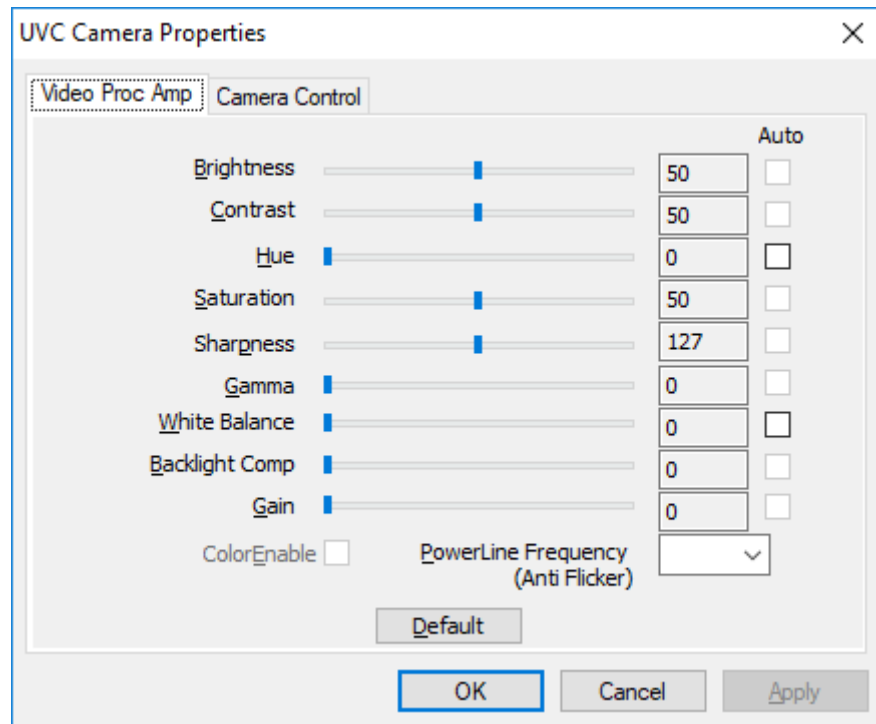
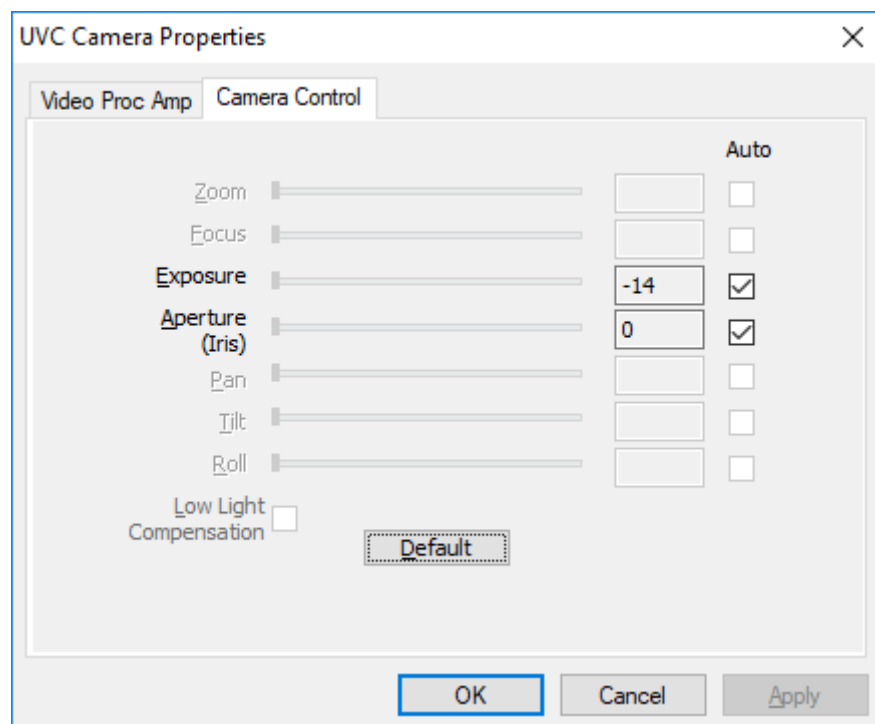

Fig 5-56 Video Properties Parameter Setting
Fig 5-57 Camera Control in Properties
- (3) Setting :  Setup the video properties, users can adjust the parameter for the preview video. See Fig 5-56, the parameter for setup video properties. Fig 5-57 is the parameter to setup camera control.